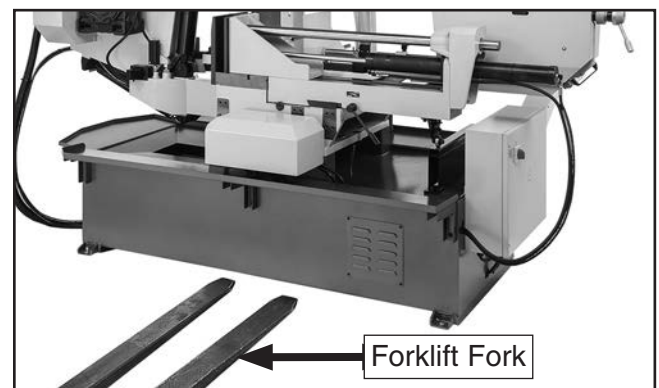

Figure 11. Lifting machine with forklift example.
4. Use forklift (see **Figure 11**) to lift machine just enough to clear pallet, then remove pallet.